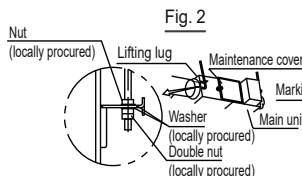

Fig. 2
- (1) Install the unit temporarily.
- Attach the lifting lug to the suspension bolt. Be sure to fix it securely by using nuts (M10, M12) and washers (M10 with external dia. 30 to 34 mm, M12 with external dia. 32 to 37 mm) (locally procured) from the upper and lower sides of the lifting lug. (Refer to Fig. 2)